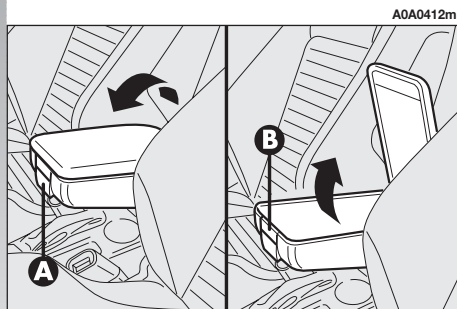

fig. 13
**APPUI-BRAS CENTRAL (fig. 13)**